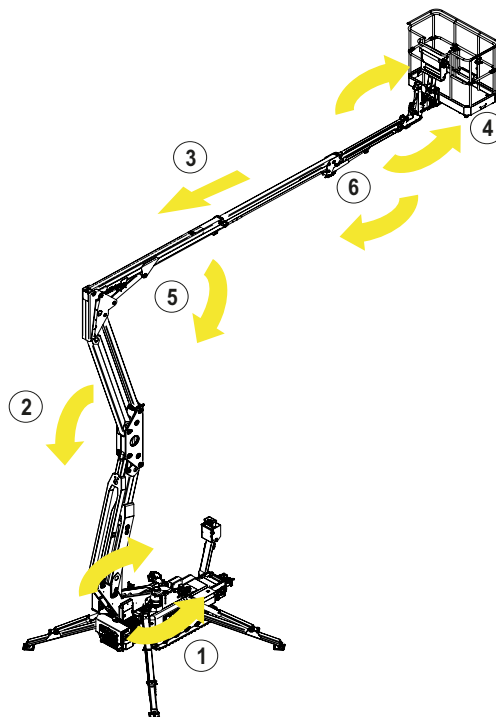

FIG. 32 (Closing the elevating work platform - MEWP)
- 1) Rotate the basket until it is in a central position (90° to the telescopic boom) (FIG. 32 - Ref. 4)
- 2) Close the telescopic boom extension almost completely (FIG. 32 - Ref. 3)
- 3) Close the jib (FIG. 32 - Ref. 6)
- 4) Lower the telescopic boom until it reaches the stowed position (FIG. 32 - Ref. 5)
- 5) Rotate the platform until it is in a central position so that the red marks line up (FIG. 32 - Ref. 1)
- 6) Close the telescopic boom extension completely (FIG. 32 - Ref. 3)
- 7) Lower the articulated boom until it reaches the stowed position (FIG. 32 - Ref. 2)